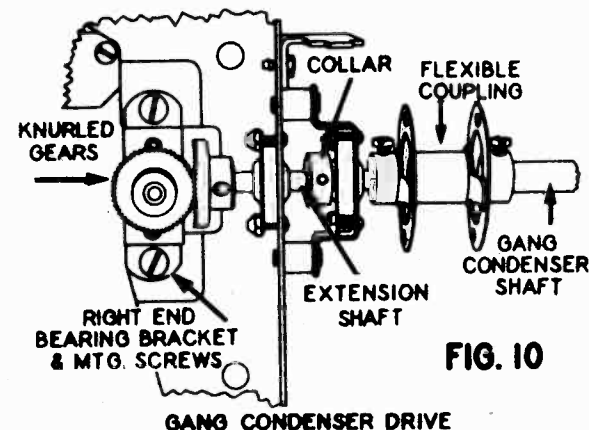

FIG. 10
- Misalignment or tight Cam Shaft Bearings. Loosen the screws holding the End Bearing Bracket (figures 10 and 15). Hold the Knurled Gears (figure 10) out of mesh by compressing the Flexible Coupling. Rotate the Cam Shaft back and forth a few times to permit the bearings to realign themselves. Then tighten the screws, taking care not to shift the Brackets while doing so. Be sure that both Right End Bearing Bracket Mounting Screws are tight, otherwise dial calibration cannot be maintained. Binding or tightness in the inner bearings is usually the result of sprung End Brackets, which should be straightened.
- Gang Condenser Drive Gears out of mesh and binding (figure 10).
- Thrust Spring in Flexible Coupling compressed too much. The Thrust Spring should exert just enough pressure on the Condenser Drive Gears (Fig. 10) to prevent backlash.
- Extension Shaft out of line and binding (Fig. 10).
- Remove the Right End Bearing and Bracket (Figure 10).
- Take the Knurled Crown Gear off the Extension Shaft (Figure 10).
41 The other type of gear is used to drive the Gang Condenser (Figure 10). The teeth of such gears are so shaped that, when the gears are kept tightly meshed together, backlash is prevented.
42 This device permits some misalignment of the Gang Condenser Shaft and the Extension Shaft (Figure 10), without causing binding in the bearings supporting the shafts. Inside of it is a coiled compression spring which keeps the Knurled Gears in mesh and prevents backlash. TO ADJUST THIS SPRING: Set the Coupling so the end of the Gang Condenser Shaft is flush with the inside edge of the back coupling collar. Tighten the set screw in the back coupling collar. Put the knurled Gears in mesh, then compress the spring in the Coupling slightly and tighten the set screw in the front collar of the coupling. There now should be just enough thrust by the compressed coil spring to keep the Knurled Gears in mesh and free from backlash. If not, loosen the front set screw in the coupling, compress the spring a little more and retighten the set screw.
43 A few of the early chassis used a single section coupling. Later sets use a double section coupling, part number 112450, as shown in figure 10. This latter type is more flexible than the former and consequently, causes less binding when the Extension and Gang Condenser shafts are badly out of line. Only the later type is carried in stock. Therefore, if it is necessary to replace the older type, it will also be necessary to use Spring, part number 112490, and Extension Shaft, part number 112488, with the new coupling. Or in place of the new shaft, the old shaft may be used by cutting off 1/16 of an inch and chamfering the end like the piece which was cut off. The new shaft should be 2 3/16 inches long.